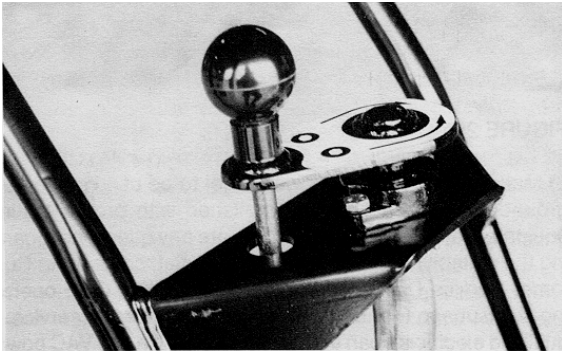

FIGURE 27
1) Flail cutting depth is controlled by the height adjustment lever. Rotate the lever counterclockwise to raise the flail drum off the work surface. Rotate the lever clockwise to lower the flail drum to the work surface. The height adjustment lever can be locked in position by dropping the connecting capscrew head through one of the two holes provided. FIGURE 27.